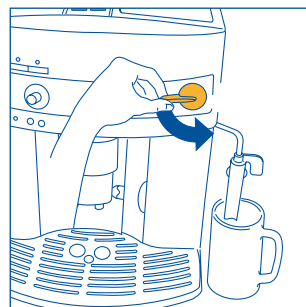

Fig.5
3. **IMMEDIATELY AFTER, WITHIN A MAXIMUM OF 30 SECONDS**, turn the steam knob counter-clockwise until it stops (Fig.5) (it is normal for the machine to make some noise).
- Turn the steam knob half a turn in counter-clockwise until it stops (Fig. 5): hot water will come out of the milk frother and start to fill the container underneath.
- Release a little steam for a few seconds by turning the steam knob counter-clockwise until it stops (Fig. 5). With this operation, the steam spout discharges any milk that may be left inside. **IMPORTANT:** For hygiene reasons, this operation should always be performed, so as to prevent previously used milk from remaining inside the cappuccino frother.